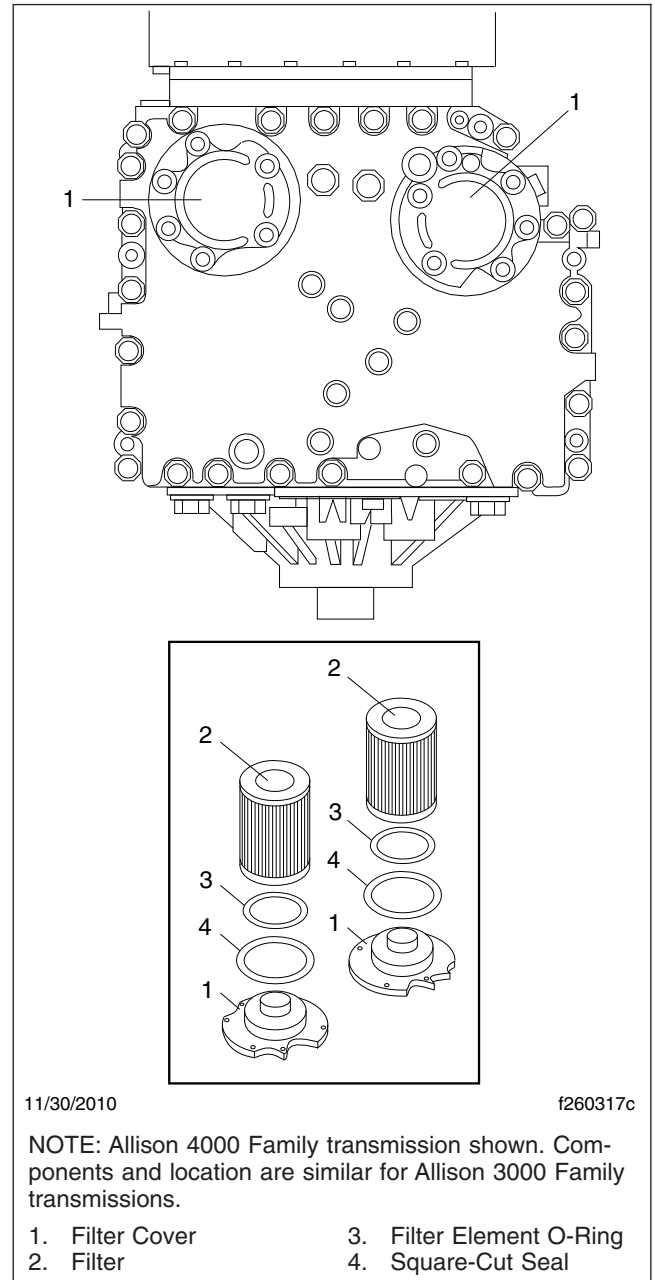

Fig. 4, Allison Transmission Filter Locations and Components
4. Remove the 12 mounting capscrews (six each) from the two filter covers. See Fig. 4.